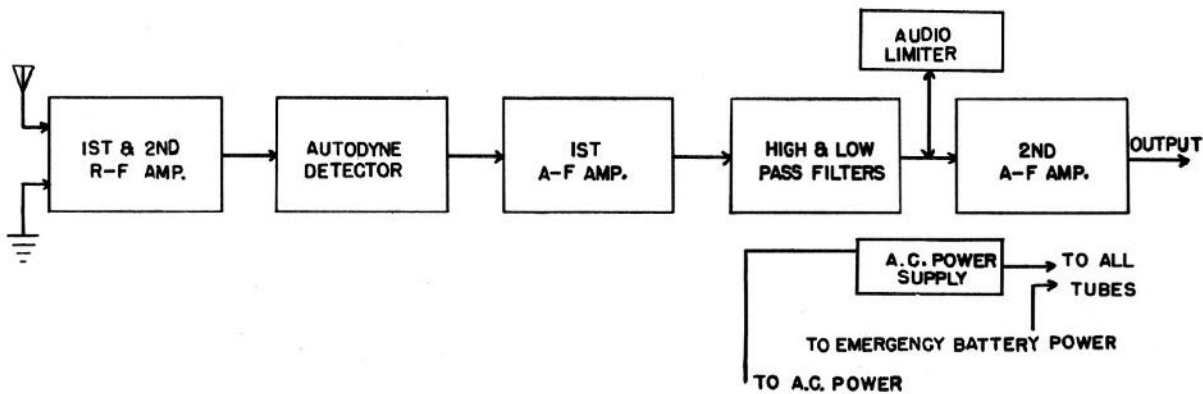

Figure 4-1 - Block Diagram of CNA-46161 Radio Receiver
a. As shown in the schematic diagram, Figure 7-1 the Type CNA-46161 Radio Receiver comprises two R.F. stages and a regenerative detector stage, coupled by means of tuned impedances. Two sets of tapped inductors together with a three-gang tuning capacitor are used to cover the frequency range of 15 to 600 kilocycles. A bandswitch permits selection of any one of six bands and in addition selects coupling taps on the inductors so as to maintain satisfactory sensitivity and selectivity over the wide frequency range covered by the receiver. The tuned inductors are wound on ceramic forms and are protected against the effects of humidity by means of wax impregnation. Interaction between stages is prevented by copper shields around the inductors and by filters in common power supply leads. A detailed schematic diagram of the radio-frequency portion of the Type CNA-46161 Radio Receiver is shown in Figure 7-2; in this diagram the band switch is shown adjusted to connect the inductors for 15 to 25 kilocycle operation (Band A); to illustrate the theory of operation, it will be assumed that Band A is in use. Figure 4-1 illustrates the functions of the circuits comprising the receiver.